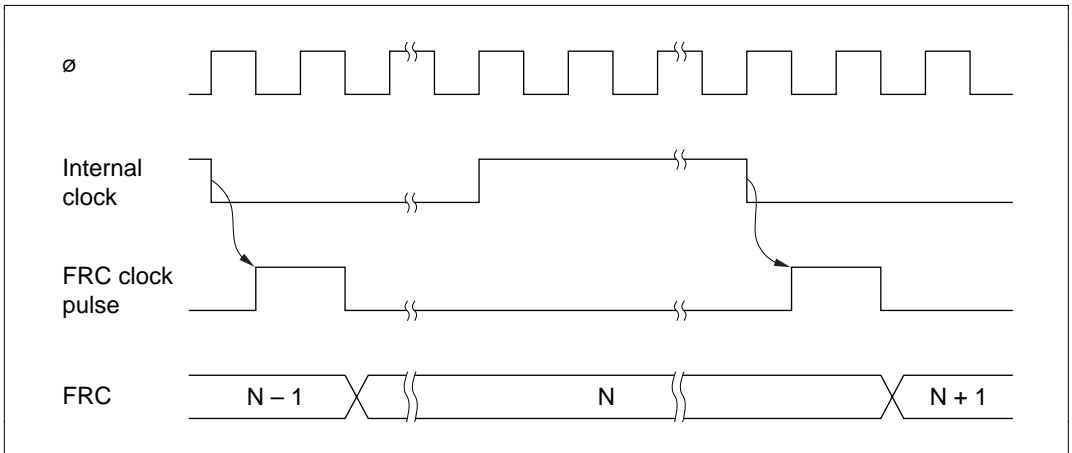

Figure 8-3 Increment Timing for Internal Clock Source
(1) **Internal Clock Sources:** Can be selected by the CKS1 and CKS0 bits in TCR. Internal clock sources are created by dividing the system clock (ϕ). Three internal clock sources are available: $\phi_P/2$, $\phi_P/8$, and $\phi_P/32$. Figure 8-3 shows the increment timing.